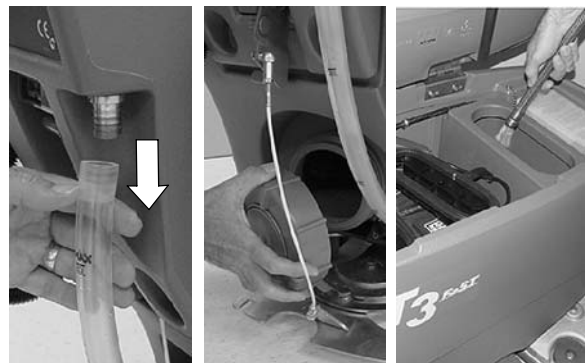

FIG. 38
3. Drain the solution tank and rinse out the inside with hot water, 60°C (140°F) maximum temperature, as needed (Figure 38)